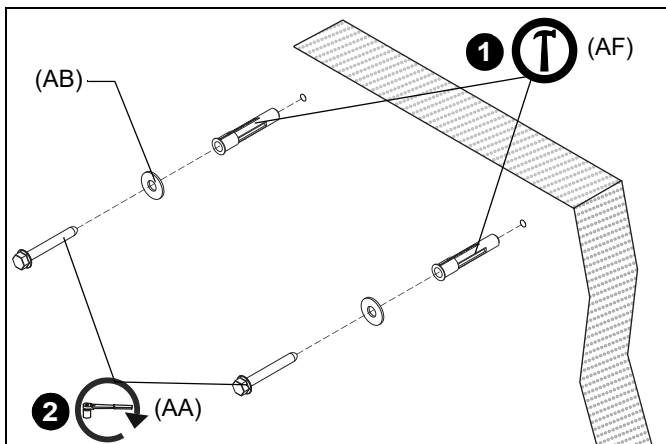

Figure 17
1. Install one UX10X60R anchor (AF) into each pilot hole using a hammer, making sure that the anchor is flush with the wall. (See Figure 17)
2. Use one 5/16" x 2-1/2" hex flange head lag bolt (AA) and one 5/16" washer (AB) through product into each anchor in wall. (See Figure 17)